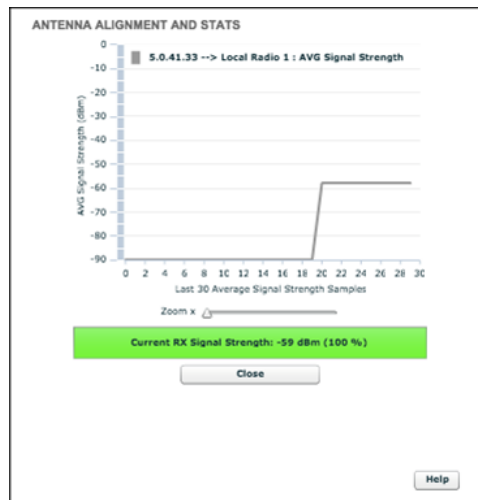

Figure 27. Antenna alignment and stats tool
- The **ANTENNA ALIGNMENT AND STATS** tool will be shown (Figure 27 (page 82)).